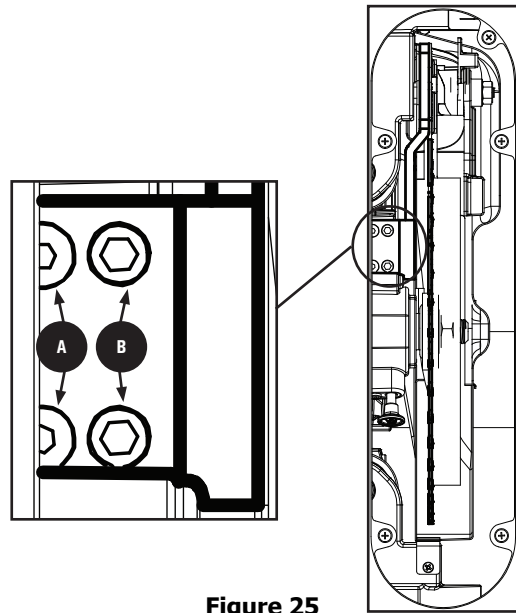

Figure 25
2. Loosen the two hex-head screws **A** shown in Figure 25.
4. Tighten the two hex-head screws **A**, see Figure 25.
5. To adjust parallel alignment use the two set screws **B**, see Figure 25. Clockwise: adjust riving knife to the right. Counter-clockwise: adjust riving knife to the left. If needed, use the set screws to align the riving knife with blade face and the square.